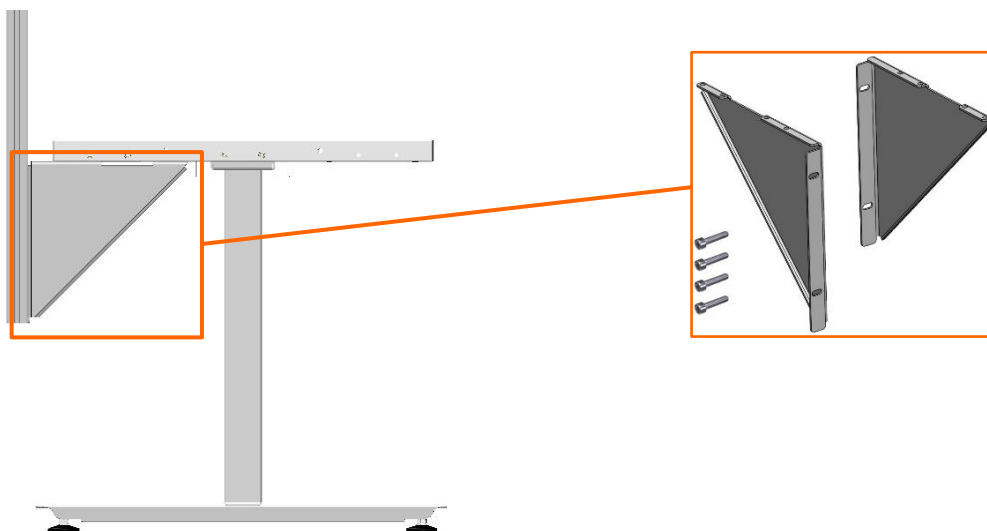

Figure 20 Extension set of the HD 2-leg system
- ➔ After the complete assembly of the lifting elements including the lower subframe, the cover plugs are installed in the fixing plate as illustrated in Figure 20.